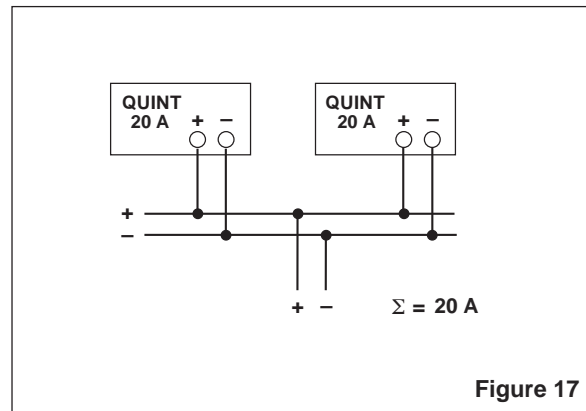

Figure 17
**7.4. Redundancy Operation (Figure 17)**